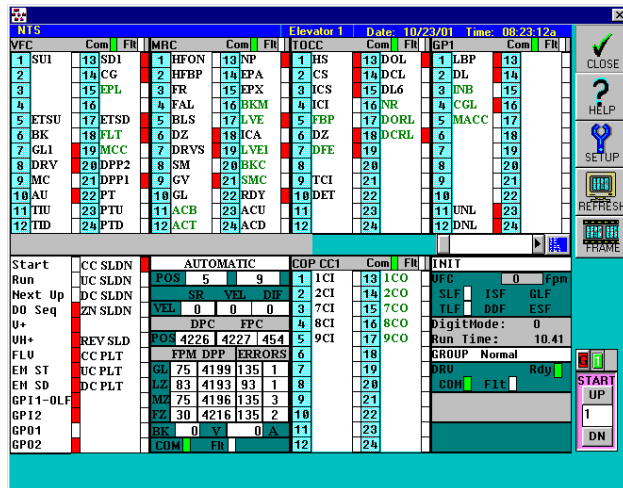

Figure 3-12
1. Verify the Wizard is displaying the Diagnostic Screen. [See Figure 3-12.]